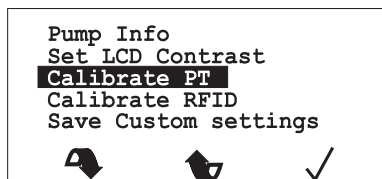

Figure 22 - LCD Display - Calibrate PT
- 7.5 Press the “hidden” **Service** button on the membrane panel (Refer to Page 5, Section 4) to access the service screen on the LCD display (Refer to Figure 22).